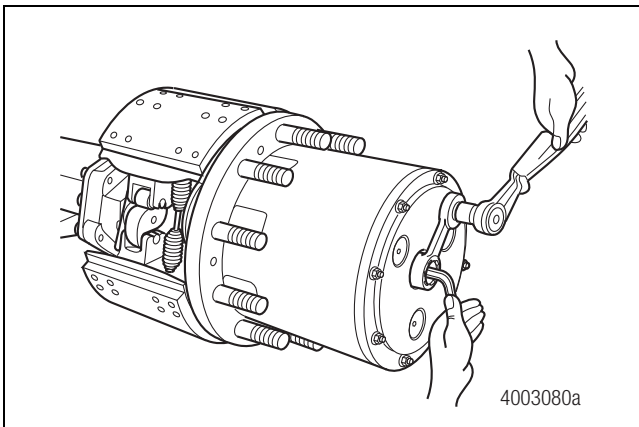

Figure 3.52
8. Insert an Allen wrench through the opening in the tool and into the thrust screw recess. Figure 3.52.